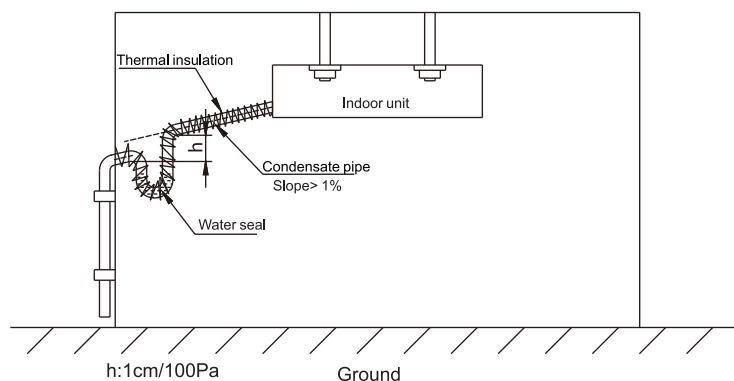

Figure 18
- 4) After condensate pipe installation, irrigation leak test must be performed. Confirm no water leakage in various joints and smooth drainage. The installation can be performed with reference to figure 18: